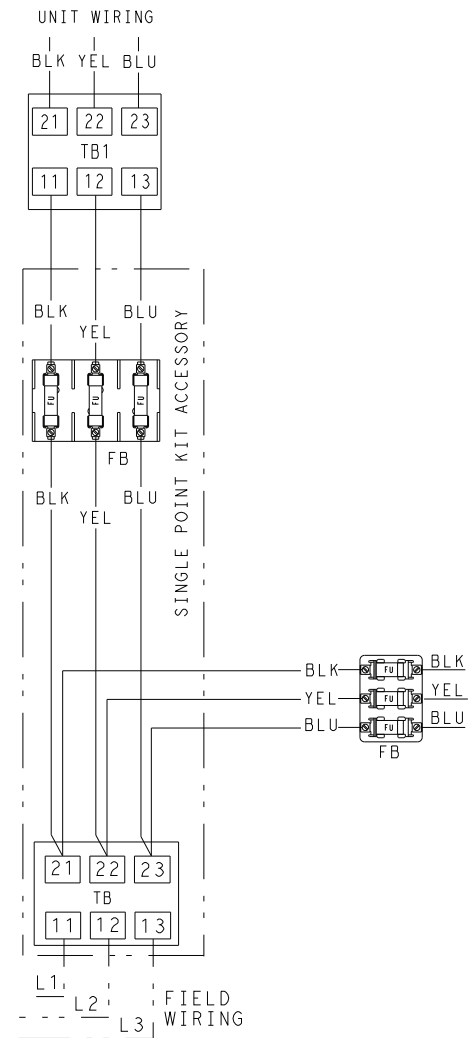

Fig. 53 — Wiring Diagram for Single Point Kit Accessory When Required
7. To be used with Standard SCCR (5ka) Units Only. Refer to Fig. 53 for wiring single point kit accessory when required. Using three 1/4-20 nuts, connect power wires to the load side of terminal block.